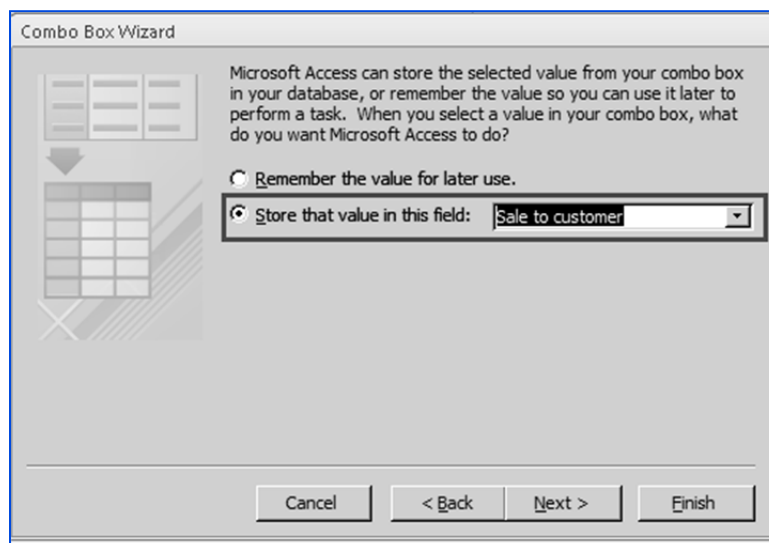

Fig. 2.2.20. Select field to store the value
10. In the next window that appears, select the option *Store the value in this field* and select the value *Sale to Customer* from the dropdown, as indicated in Fig. 2.2.20.